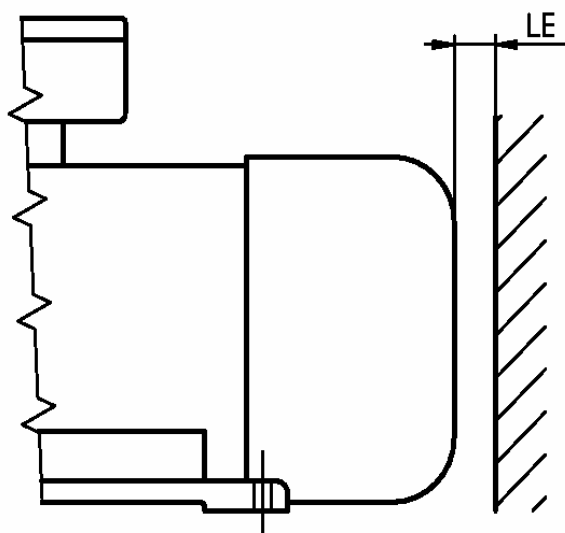

Figure 2: Minimum distance of obstacles from the air opening
The ventilator hood air inlet and outlet must not be obstructed, as there is the risk of heating beyond the permissible temperature class and of reducing the life of the winding insulation ➔ Fig. 2 and ➔ Table 2.
Minimum distance (LE) of an obstacle from the air opening, see Fig. 2.